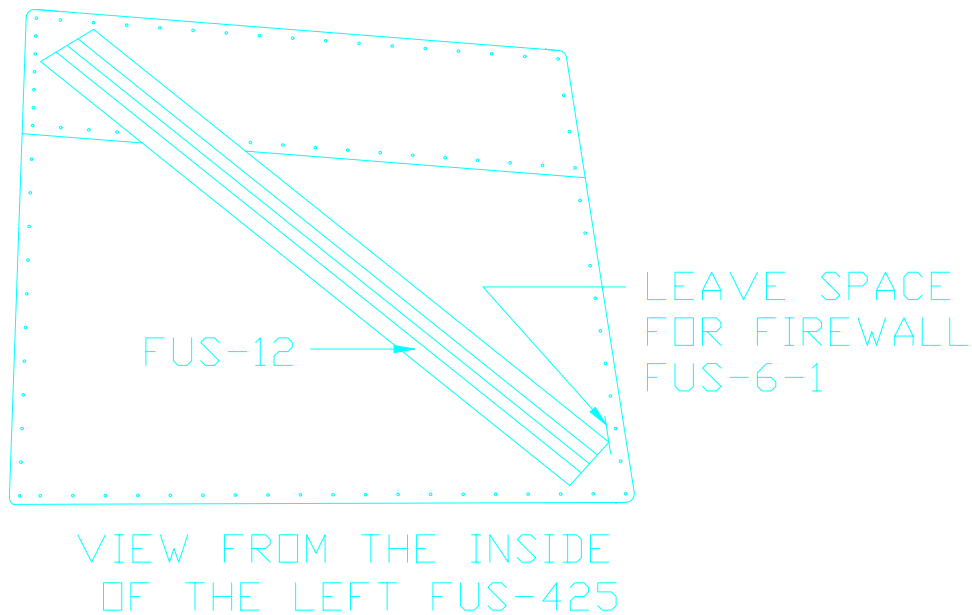

Figure 9.18.4
- 6) Cut two lengths of FUS-12 Witches Hat to fit the forward panels. Figure 9.18.4.